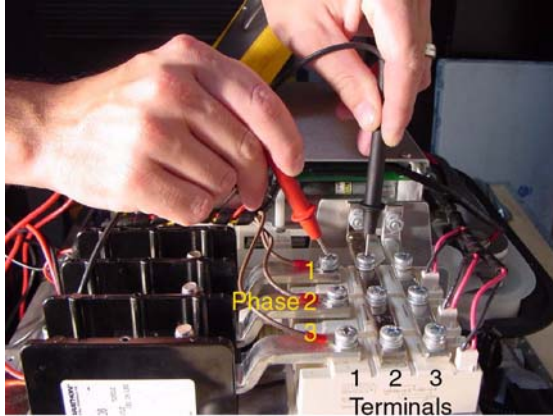

Figure 4-36 Verifying the Rectifier (1 of 2)
- Place the red (+) meter probe on phase 1 of terminal 1, and the black (-) probe on terminal 2, as shown in Figure 4-36. The measured value should be infinite.